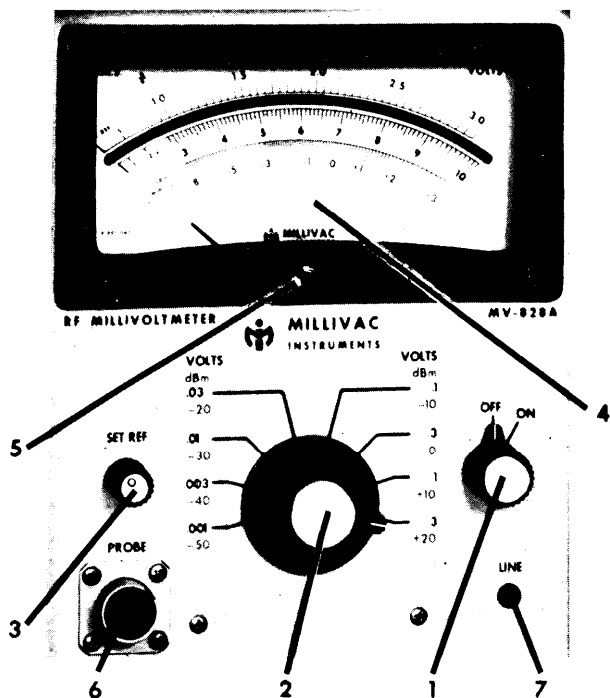
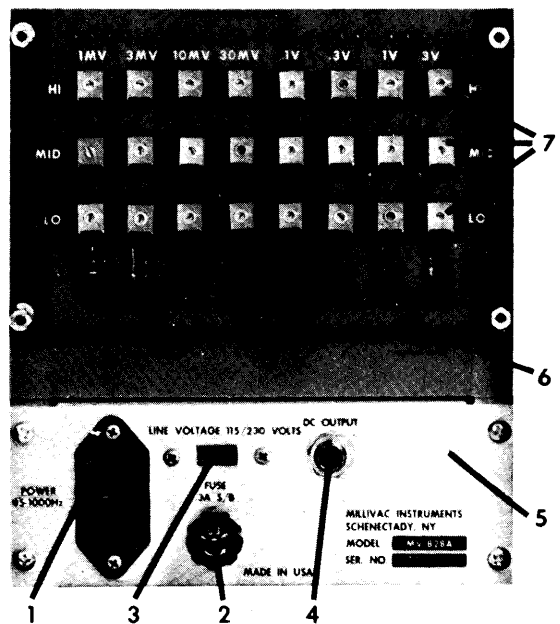

Figure 3-1. Front panel controls and indicators.
Figure 3-2. Rear panel controls.
This chapter should be read carefully before using the voltmeter. It contains information necessary for proper operation of the voltmeter. To achieve valid readings, proper switch settings are required. Controls, with the function of each, are listed in paragraph 3-4. The controls are shown in figures 3-1 and 3-2. Operating procedures are described in paragraph 3-5.
- a. Front panel (figure 3-1)
- (1) POWER Switch - a two position ON-OFF switch. Connects AC power to the voltmeter at the ON position.
- (2) RANGE Selector Switch - enables the selection of any one of the eight (8) RF voltage or dBm measuring ranges.
- (3) SET REF Adjust Control - is used to electrically zero the voltmeter, under no input signal conditions, to the meter's SET REF indication.
- (4) Meter - RF voltage measurements are read on the top two (2) meter's dial scales. All measurements should be read between 30% and 100% of full scale as the specified accuracies will apply only to those readings. The 1 and 2 marks on the second dial scale refer to 100 $\mu$ V and 200 $\mu$ V and apply only to the .001V full scale range. dBm measurements are read on the dBm (1mV, 50 ohm) dial scale.
- (5) Meter Mechanical Zero Adjust - provides mechanical zeroing of the meter pointer and is performed with the voltmeter de-energized.
- (6) RF Input PROBE Connector - a 9 pin Amphenol type which accepts the probe.
- (7) AC LINE Pilot Light - indicates AC power is applied to the voltmeter and is operational.
- b. Rear panel (figure 3-2)
- (1) POWER Connector - accepts the 3 wire grounded AC line power cord. Voltage and frequency requirements are marked on the serial/power plate.
- (2) FUSE Holder - contains a 0.3 amp "S1o-B1o" fuse. Always replace with the same type and manufacture as factory installed.
- (3) LINE VOLTAGE Selector Switch - slide switch for either 115V or 230V AC line operation and must be set to agree with the line voltage to be used.
- (4) DC OUTPUT Connector - phone type jack for obtaining a DC voltage which is directly proportional to the full scale reading of the meter. DC output 3 circuit phone plug furnished. Impedance load of 2K $\Omega$  (1.98K $\Omega$  to 2.02K $\Omega$ ) is required.
- (5) Serial/Power Plate.
- (6) Calibration Controls Board.
- (7) Calibration Adjust Controls - provides individual range linearization correction adjustments.